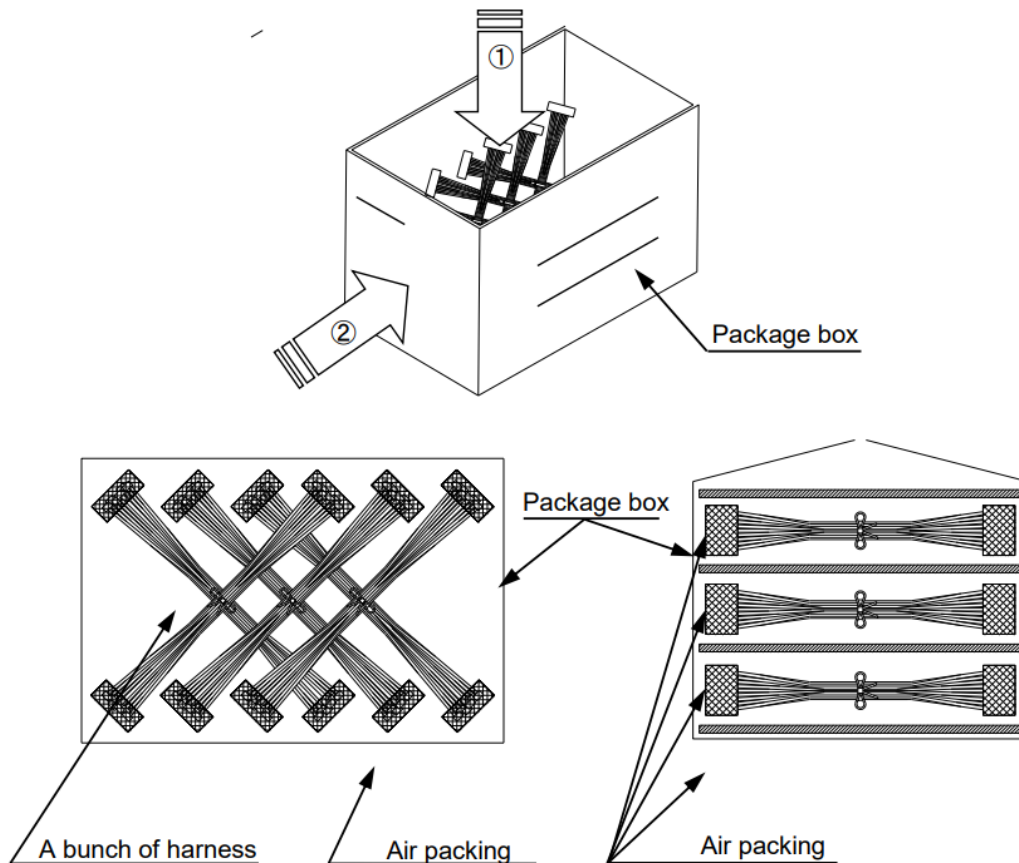

Fig. 5-7 Packing condition
Figure below (Fig. 5-7) Please take a measure not to add force to connector for a long period of time by stacking if you pack by different packing method for long harness.
※When packing bundle of harness after processing in a package box, please follow instructed packaging and avoid applying excessive load or force to harnesses. (cross shape) (Fig.5-7 ①)
※Please lay air packing etc. on the bottom of package box. In order to prevent force from applying to connectors for a long time by piling up package boxes, please lay air packing etc. (Fig.5-7 ②)